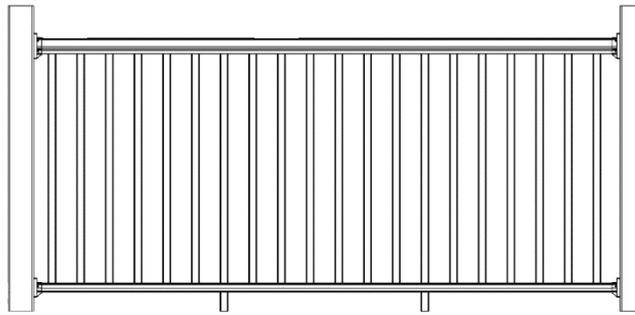
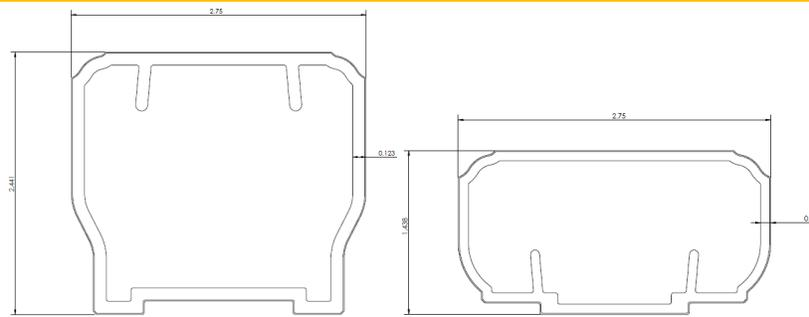

FIGURE 1 – CLASSIC GRAB & GO PREMIER M-PVC GUARDRAIL SYSTEM
FIGURE 4 – CLASSIC GRAB & GO TOP AND BOTTOM RAIL PROFILES
**3.4.1** Classic Grab & Go Guardrail System (see Figure 4), and Classic Grab & Go Premier (see Figures 1, 5, and 6), comprised of independent coextruded profiles for the top and bottom rails. Balusters are a 1.25-inch-square coextruded profile (see Figure 10) or *Classic* round aluminum balusters (see Figure 9).